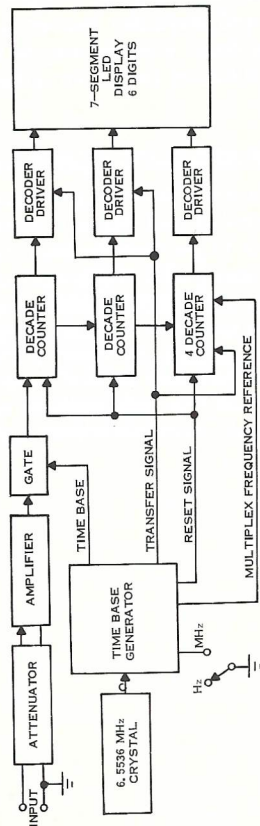
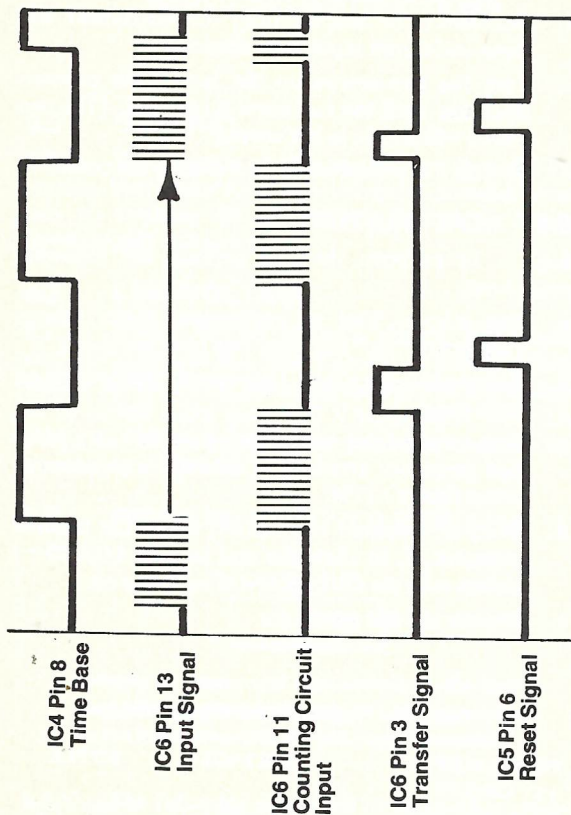

Figure 5-1. Block Diagram
Figure 6-1. Timing Diagram Frequency Measurement shown in Hz position)
**5.1.1** This section describes the theory of operation of the 710. All modes of operation are described first, then, description of the circuits follows. (Figure 5-1 shows the overall block diagram of the Instrument).
**5.2.1** This circuit arrangement (as shown in Figure 5-1) permits control of the Gate by time base generator signals. The Gate is opened for a controlled time; therefore, the accumulated count represents the number of input cycles or pulses during this time. Controlled interval is selectable by the front panel pushbutton switch either in 10 mSec or 1 sec. The decimal point is automatically positioned, and the readout is in Hz, or MHz as indicated by the pushbutton switch position (Figure 6-1 Timing Diagram).
**5.3.1** The amplifier (Figure 5-1) consists of a junction field-effect (high input impedance) transistor; AC coupled to a wide-band, linear-integrated circuit amplifier. Sufficient gain is maintained for a frequency response of 10 Hz to 60 MHz. Input overload protection is provided by two silicon diodes at the input of the amplifier.